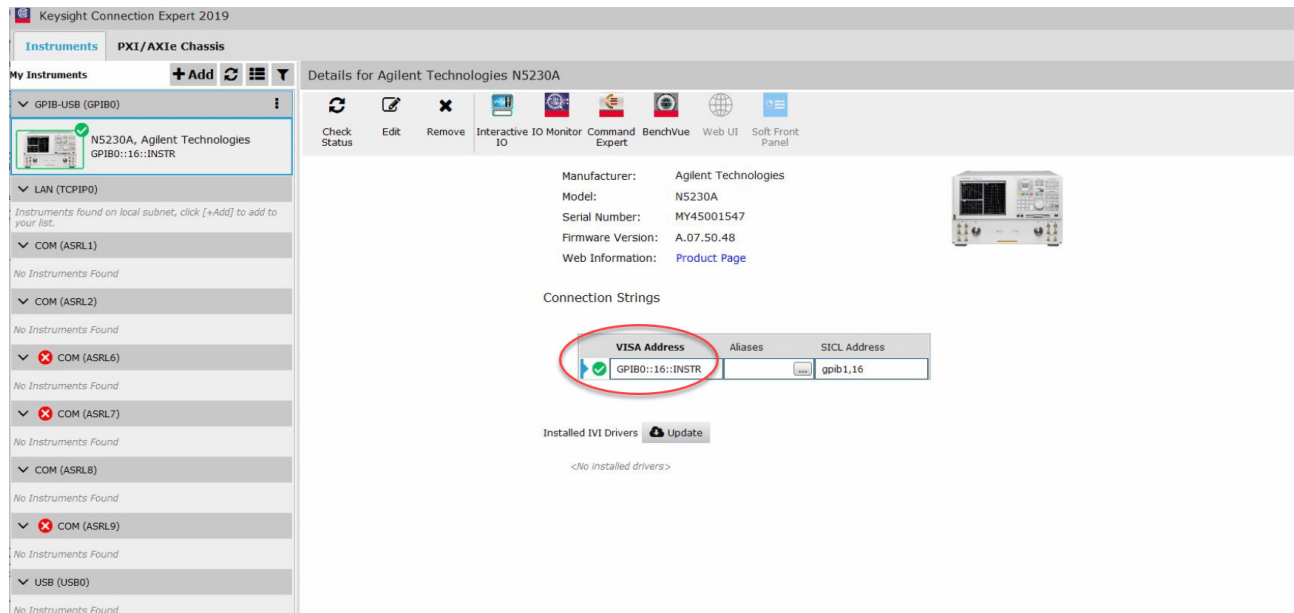

Figure 43 Checking VISA/SICL address for Vector Network Analyzer in the Keysight Connection Expert
- A pop-up box appears where you can enter either the VISA/SICL address or the IP address. Enter the information and click the **Verify** button, followed by the **Done** button to close this box. The VISA/SICL address or the IP address can be obtained from the Keysight Connection Expert application, as shown in Figure 43.